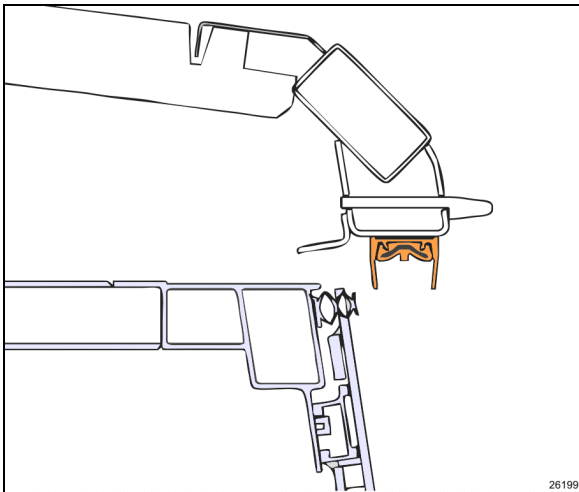

FIGURE 21: ROOM 2" INSIDE – UPPER SECTION VIEW
Do not retract slide-out room too far in. Retract just past the wiper seal. (Figure 21)
12. Using the manual override procedure paragraph 5, move the slide-out 2" inside the vehicle just so the seal becomes accessible from the outside (Figure 21).